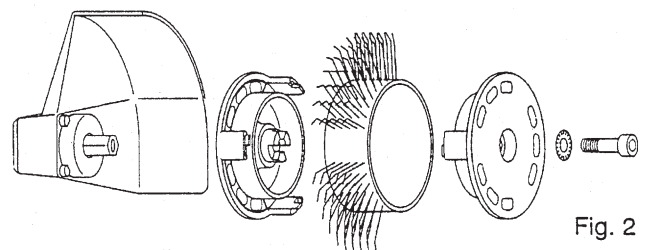

Fig. 2
4. Assemble the abrasive belt to the tool correctly with the adapter and the specific screw, disconnecting the air supply. See Fig. 2. Be sure the brush bristles are facing in correct direction for rotation of the tool. See page 4.